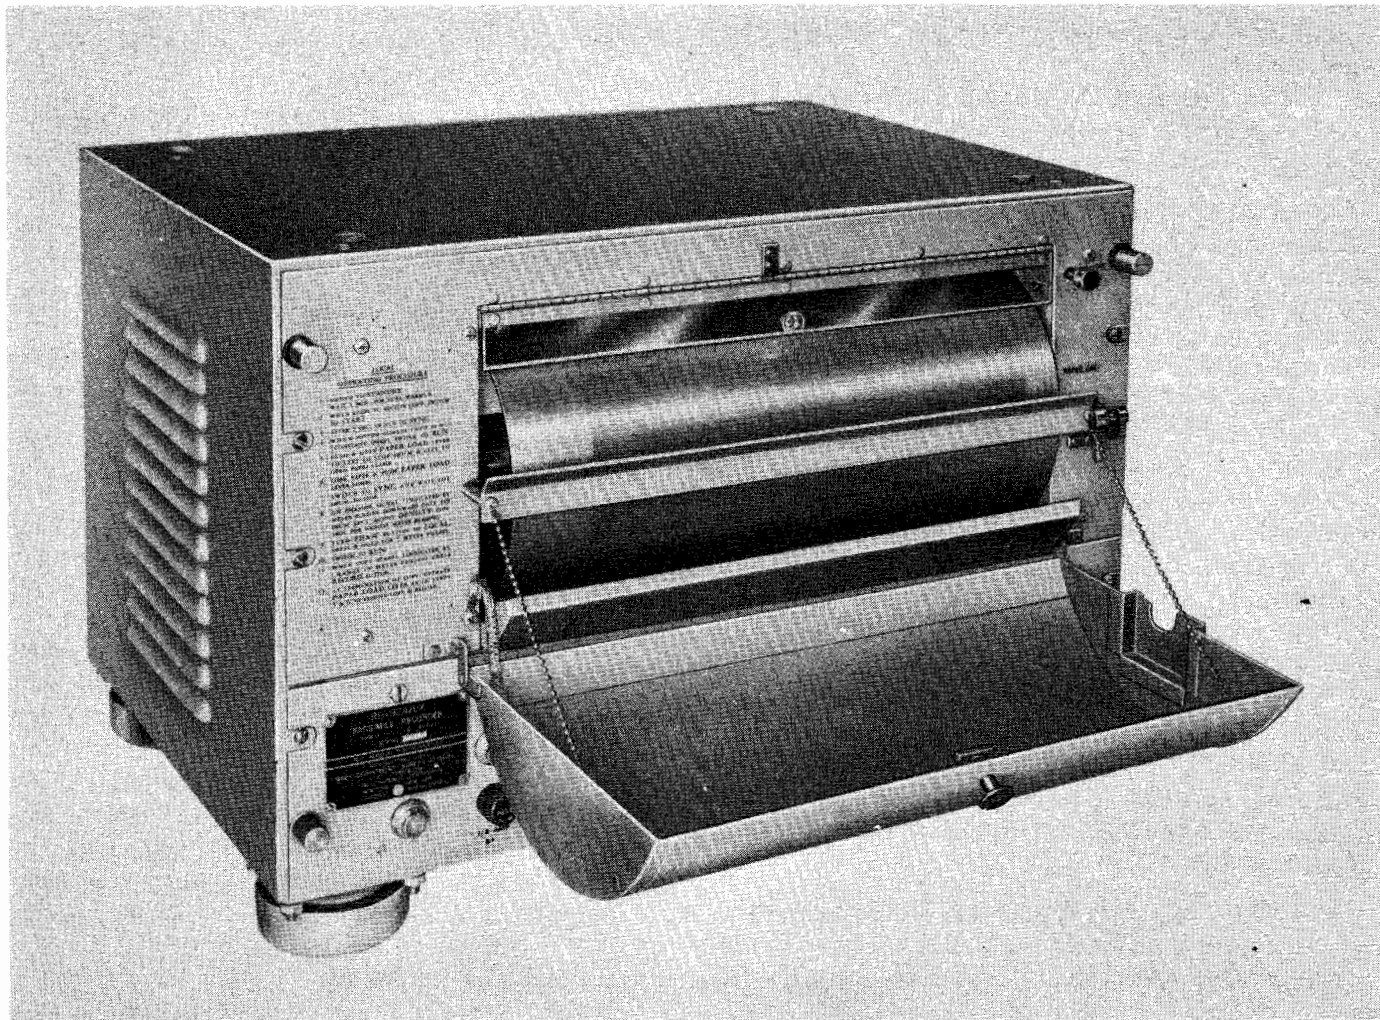

Figure 4-2. Recorder With Drum Cover Opened
(1) With the selector switch in RUN position, push PAPER LOAD lever to the left and hold there until the drum stops rotating. Then lift the projecting lever.
(2) Open the hinged cover over the drum. (See figure 4-2.)
(3) When the PAPER LOAD lever is lifted, the paper clamp fingers on the drum open. The PAPER LOAD lever remains in the up position. Drop a fresh sheet of recording paper into the space between the paper guide and the drum so that it rests up against the clamp fingers.
(4) Flip down the PAPER LOAD lever. This causes the fingers to close quickly and grab the paper. This action also releases the drum, which quickly picks up speed to the synchronous speed of 60 rpm.
(5) Close the hinged cover.